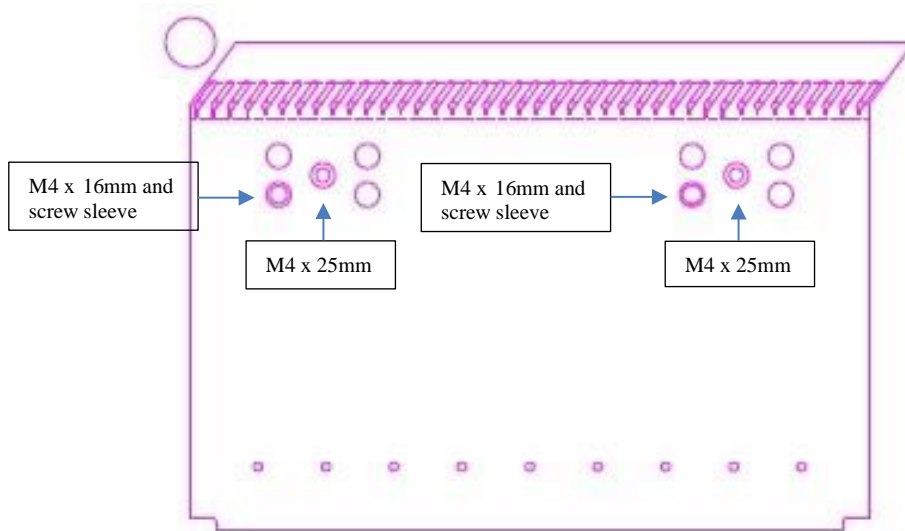
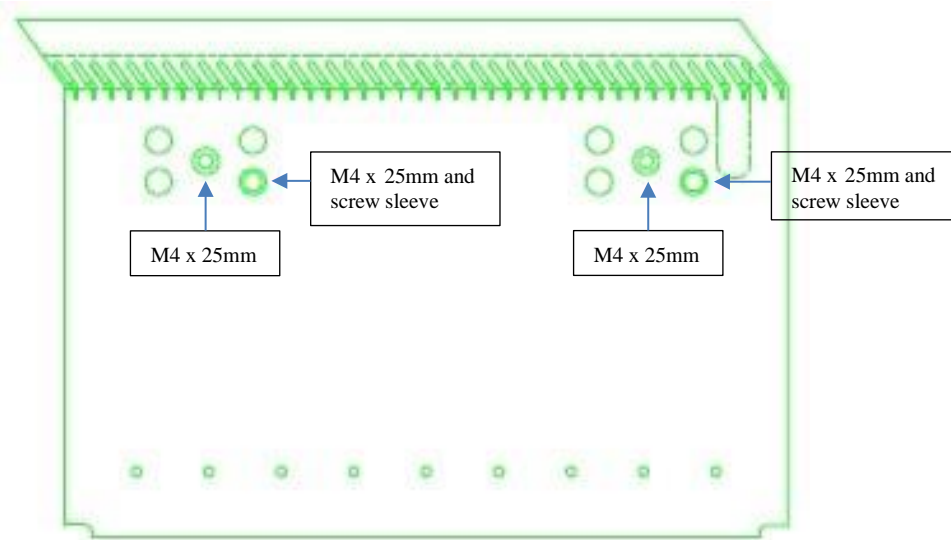
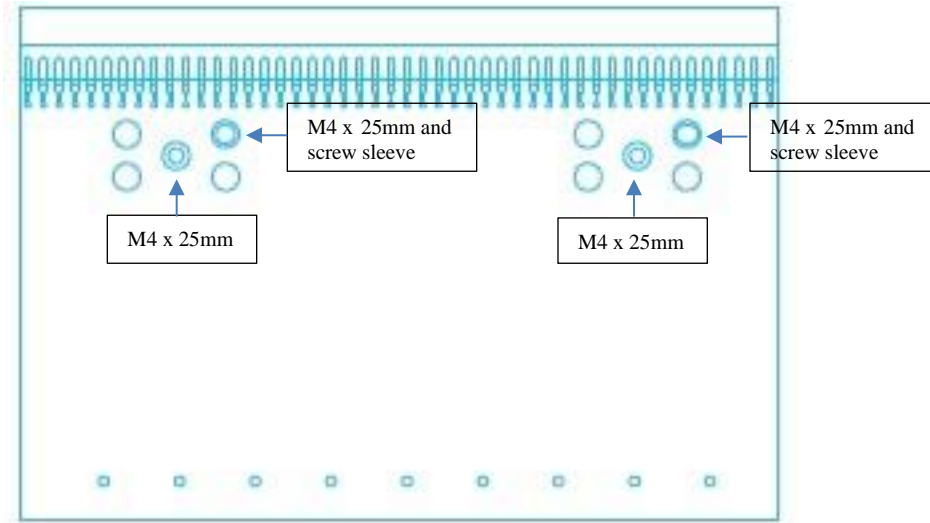

Figure 8 – V head board screw locations
Figure 10 - U head board screw locations
Figure 11 – G head board screw locations
6.5.1 G winding fixture boards with sacrificial boards attached (see *figure 10*)
- 9.2.9 Remove one of the M4x16mm screws from the epoxy application fixture, then insert the screws and sleeves into both of the holes indicated in *Figure 8* for V layer (*Figure 10* for U layer, *Figure 11* for G layer). Using a 2.5mm hex screwdriver, tighten them into place over the screw sleeves until snug.
- 9.3.2 Using the 2.5mm L-shaped hex key, remove the M4x25mm blue-dyed BHSCS (which are in the *centres of the five-hole rectangular patterns*, refer to figure 10) previously installed V layer head boards, only remove these centre screws from the head boards and place them with the other hardware. **DO NOT remove any of the other BHSCS and screw sleeves in the five hole rectangular pattern!**
- 9.3.4 Repeat steps 9.2.2 - 9.2.19 to install all U head boards. See *Figure 10* for screw locations.
- 9.4.2 Using the 2.5mm L-shaped hex key, remove the M4x25mm blue-dyed BHSCS (which are in the centres of the five-hole rectangular patterns, refer to figure 11) previously installed V layer head boards, only remove these centre screws from the head boards and place them with the other hardware. **DO NOT remove any of the other BHSCS and screw sleeves in the five hole rectangular pattern!**
- 9.4.4 Repeat steps 9.2.2 - 9.2.19 to install all G head boards. See Figure 11 for screw locations.